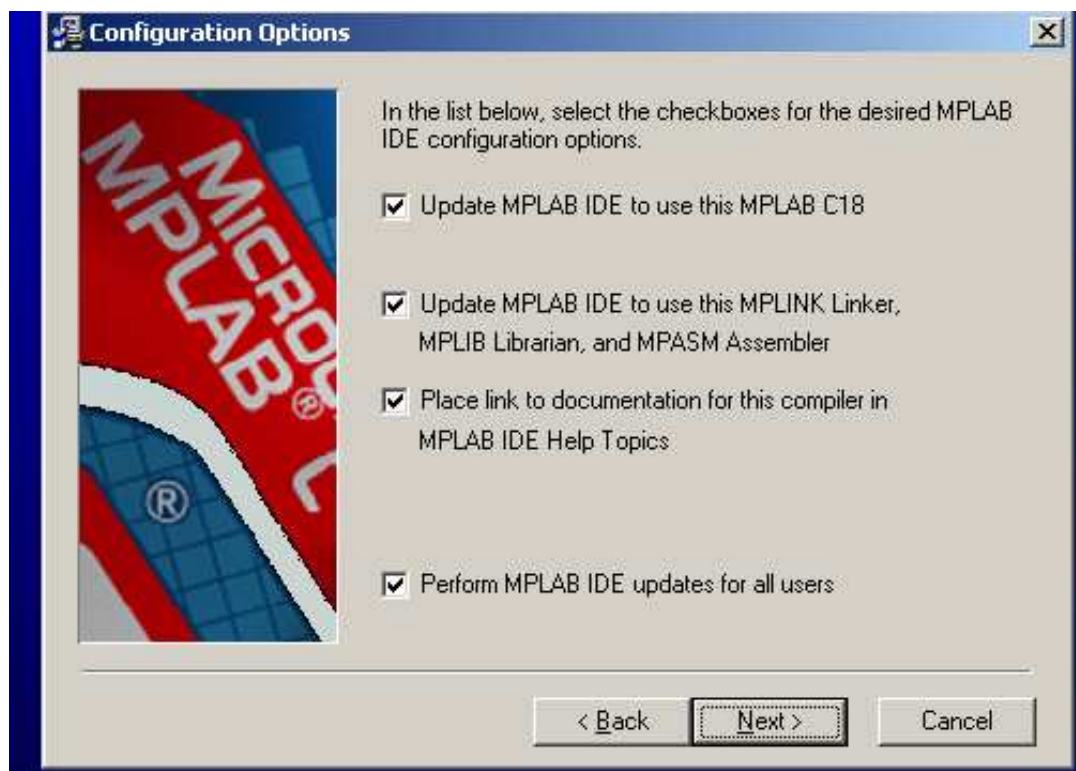

Figure 5: Installation of C18 Compiler, settings for MPLAB
- 5) Select all the options to configure MPLAB to fully manage the compiler (Figure 5).